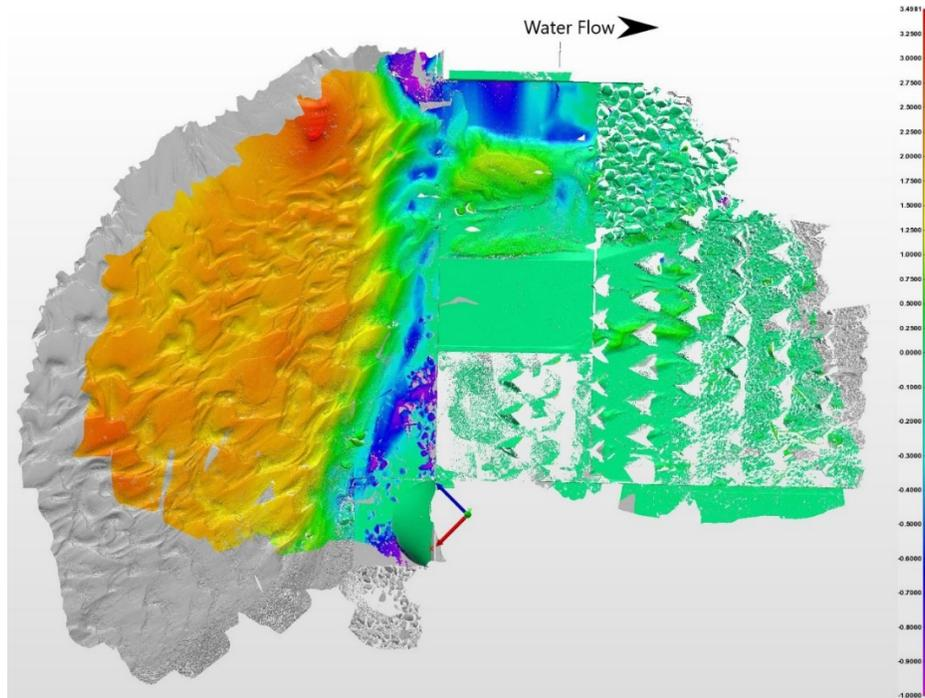

Figure 25: Diversion Dam 3000 CFS Colormap
**Analysis:** An analysis of the area was conducted by comparing the two scans. A colormap of the surface deviation is shown below: A large amount of sand build-up was apparent. The highest of these points was about 3.5 inches higher than the original scan. The colormap also highlights the area of removed sediment, shown in blue and purple in Figure 25.